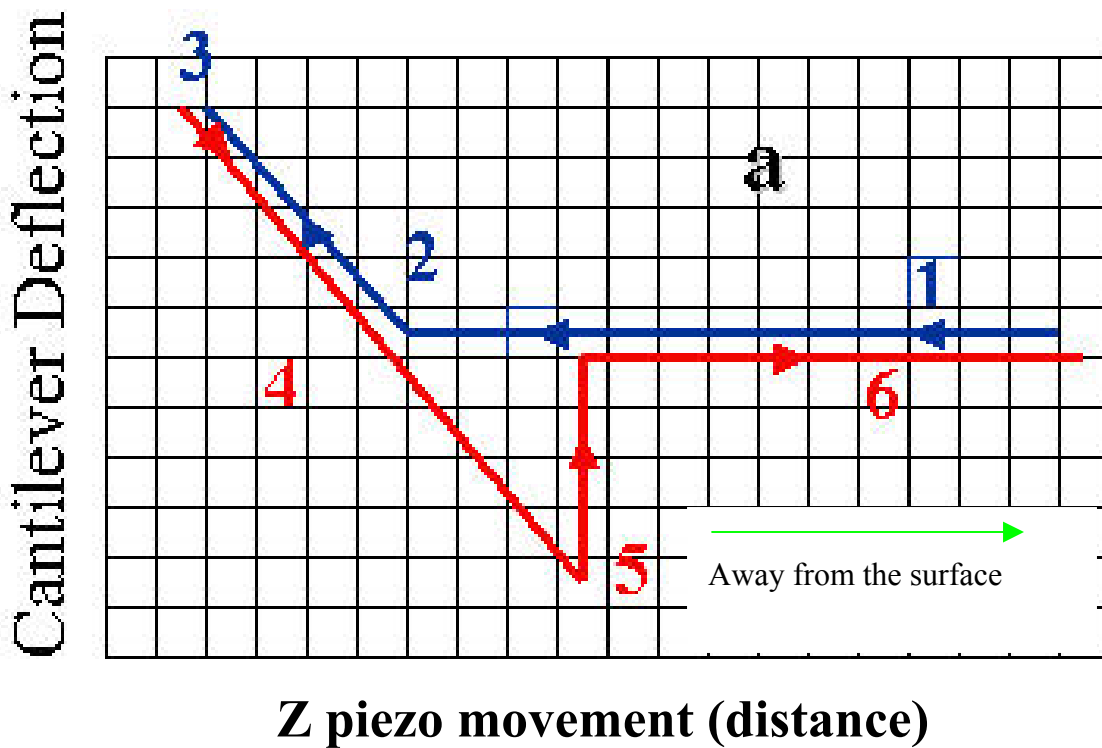
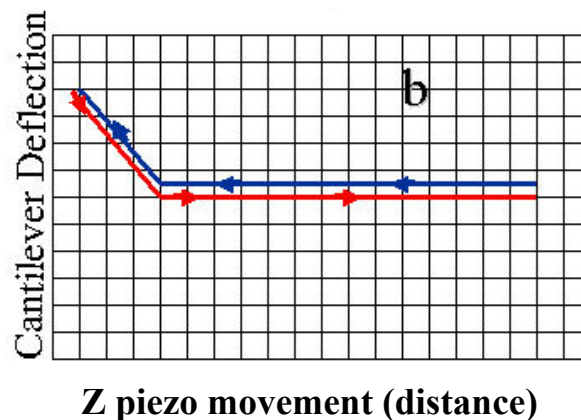

Fig. 6.1 Schematic f-d curve in air illustrating different cantilever positions during a f-d curve cycle
Fig. 6.2 Schematic f - d curve in a fluid showing the absence of strong adhesion
- The following figures represent a sequence of AFM cantilever movement in air (Fig. 6.1) and in water (Fig. 6.2) during a cycle of a force-distance measurement.